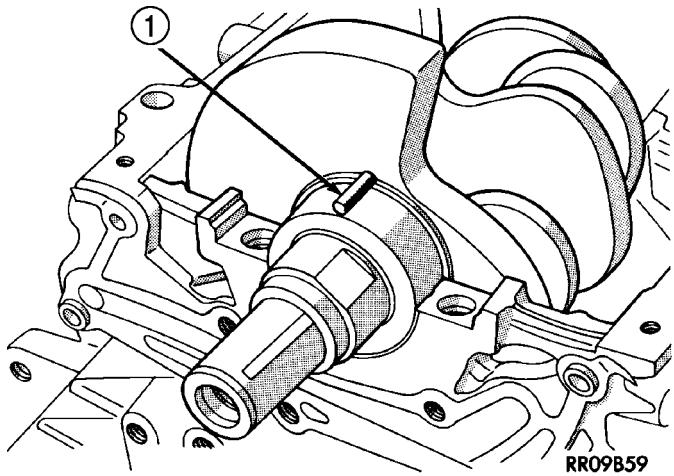

Fig. 6 Plastigage Placed in Lower Shell—Typical
(1) Remove oil film from surface to be checked. Plastigage is soluble in oil.
(2) Place a piece of Plastigage across the entire width of the bearing shell in the cap approximately 6.35 mm (1/4 in.) off center and away from the oil holes (Fig. 6). (In addition, suspected areas can be checked by placing the Plastigage in the suspected area). Torque the bearing cap bolts of the bearing being checked to the proper specifications.